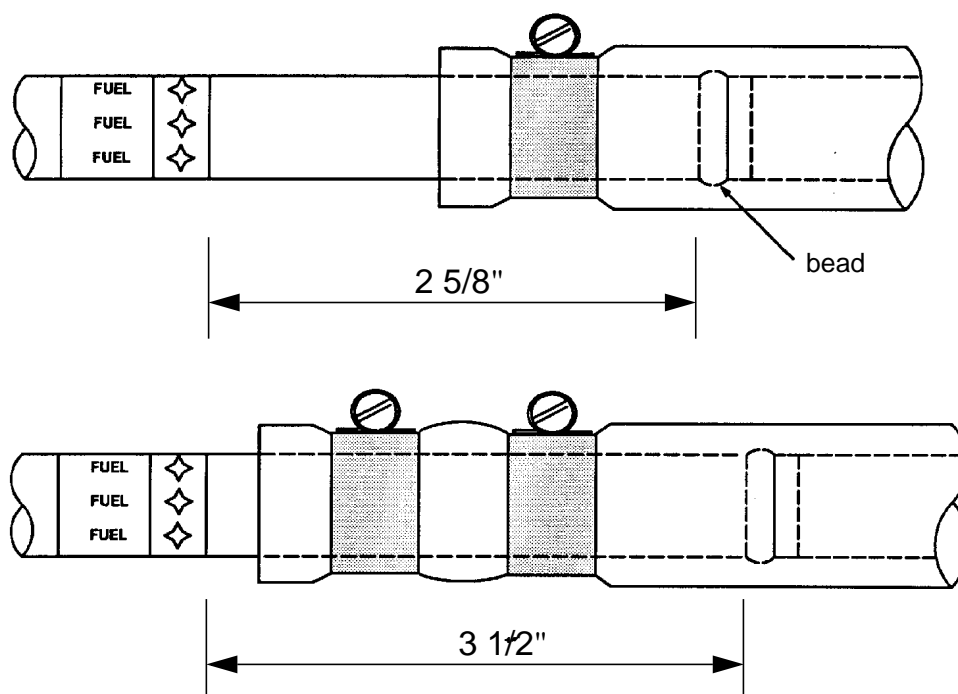

Figure 2 - Applying Identification Tape to Beaded Tubing
- 5.2.7 For beaded tubing longer than 24", locate the identification tape 2 5/8" from the bead inner edge if one hose clamp is used or 3 1/2" from the bead inner edge if two hose clamps are used (see Figure 2).